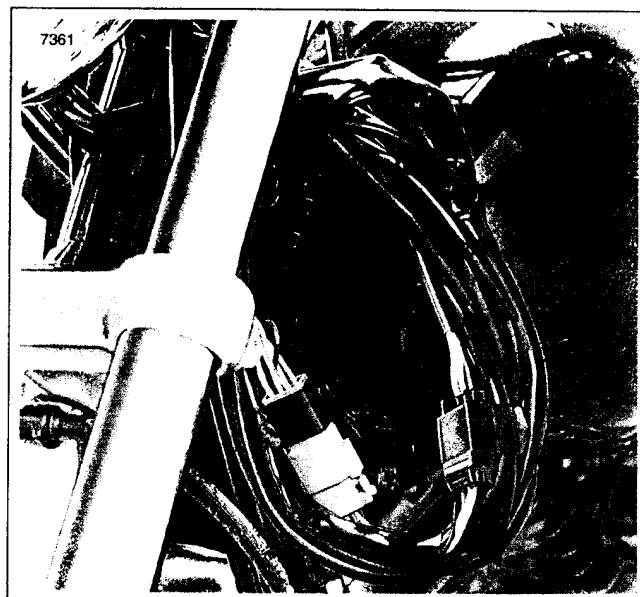

Figure 8-71. Main Harness Front Connectors
7. See Figure 8-71. Pull harness forward through frame backbone far enough to gain access to front connectors.